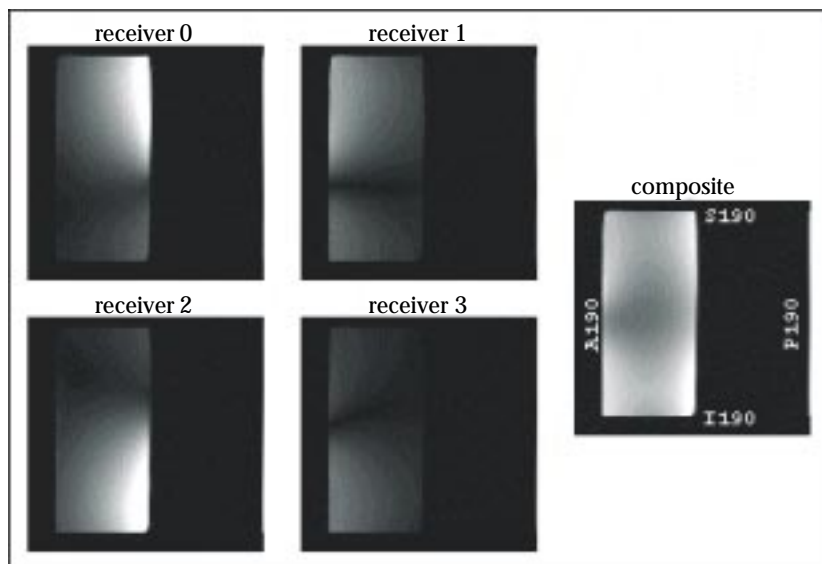

Figure 8: Typical PVLOWER images.
- Review Images -- The images from each station should resemble those in *Figures 8 through 10*. Note particularly that each intermediate image has a bright region in one corner, corresponding to the coil element which made it. A normal composite image will be slightly darker in the center than in the corners. If one or more corners of the composite image is noticeably darker than the others, it may indicate that one or more elements or receive channels is not working properly. Images from the PVUPPER station of the coil will be somewhat less bright than those from the PVMIDDLE and PVLOWER stations. This is normal due to coil geometry and the presence of loaders for the PVUPPER station in the phantom set.